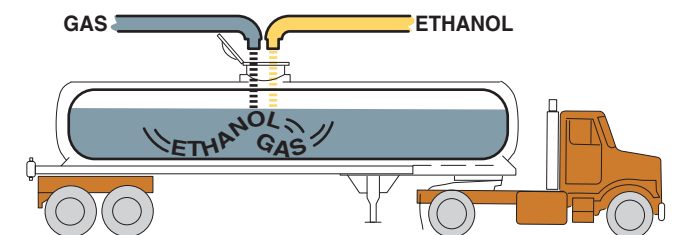

FIGURE 2-13 Sequential blending uses a computer to calculate the correct ratio as well as the prescribed order that the products are loaded.
2. **Sequential blending.** This method is usually performed at the wholesale terminal and involves adding a measured amount of ethanol to a tank truck followed by a measured amount of gasoline. ● **SEE FIGURE 2-13.**